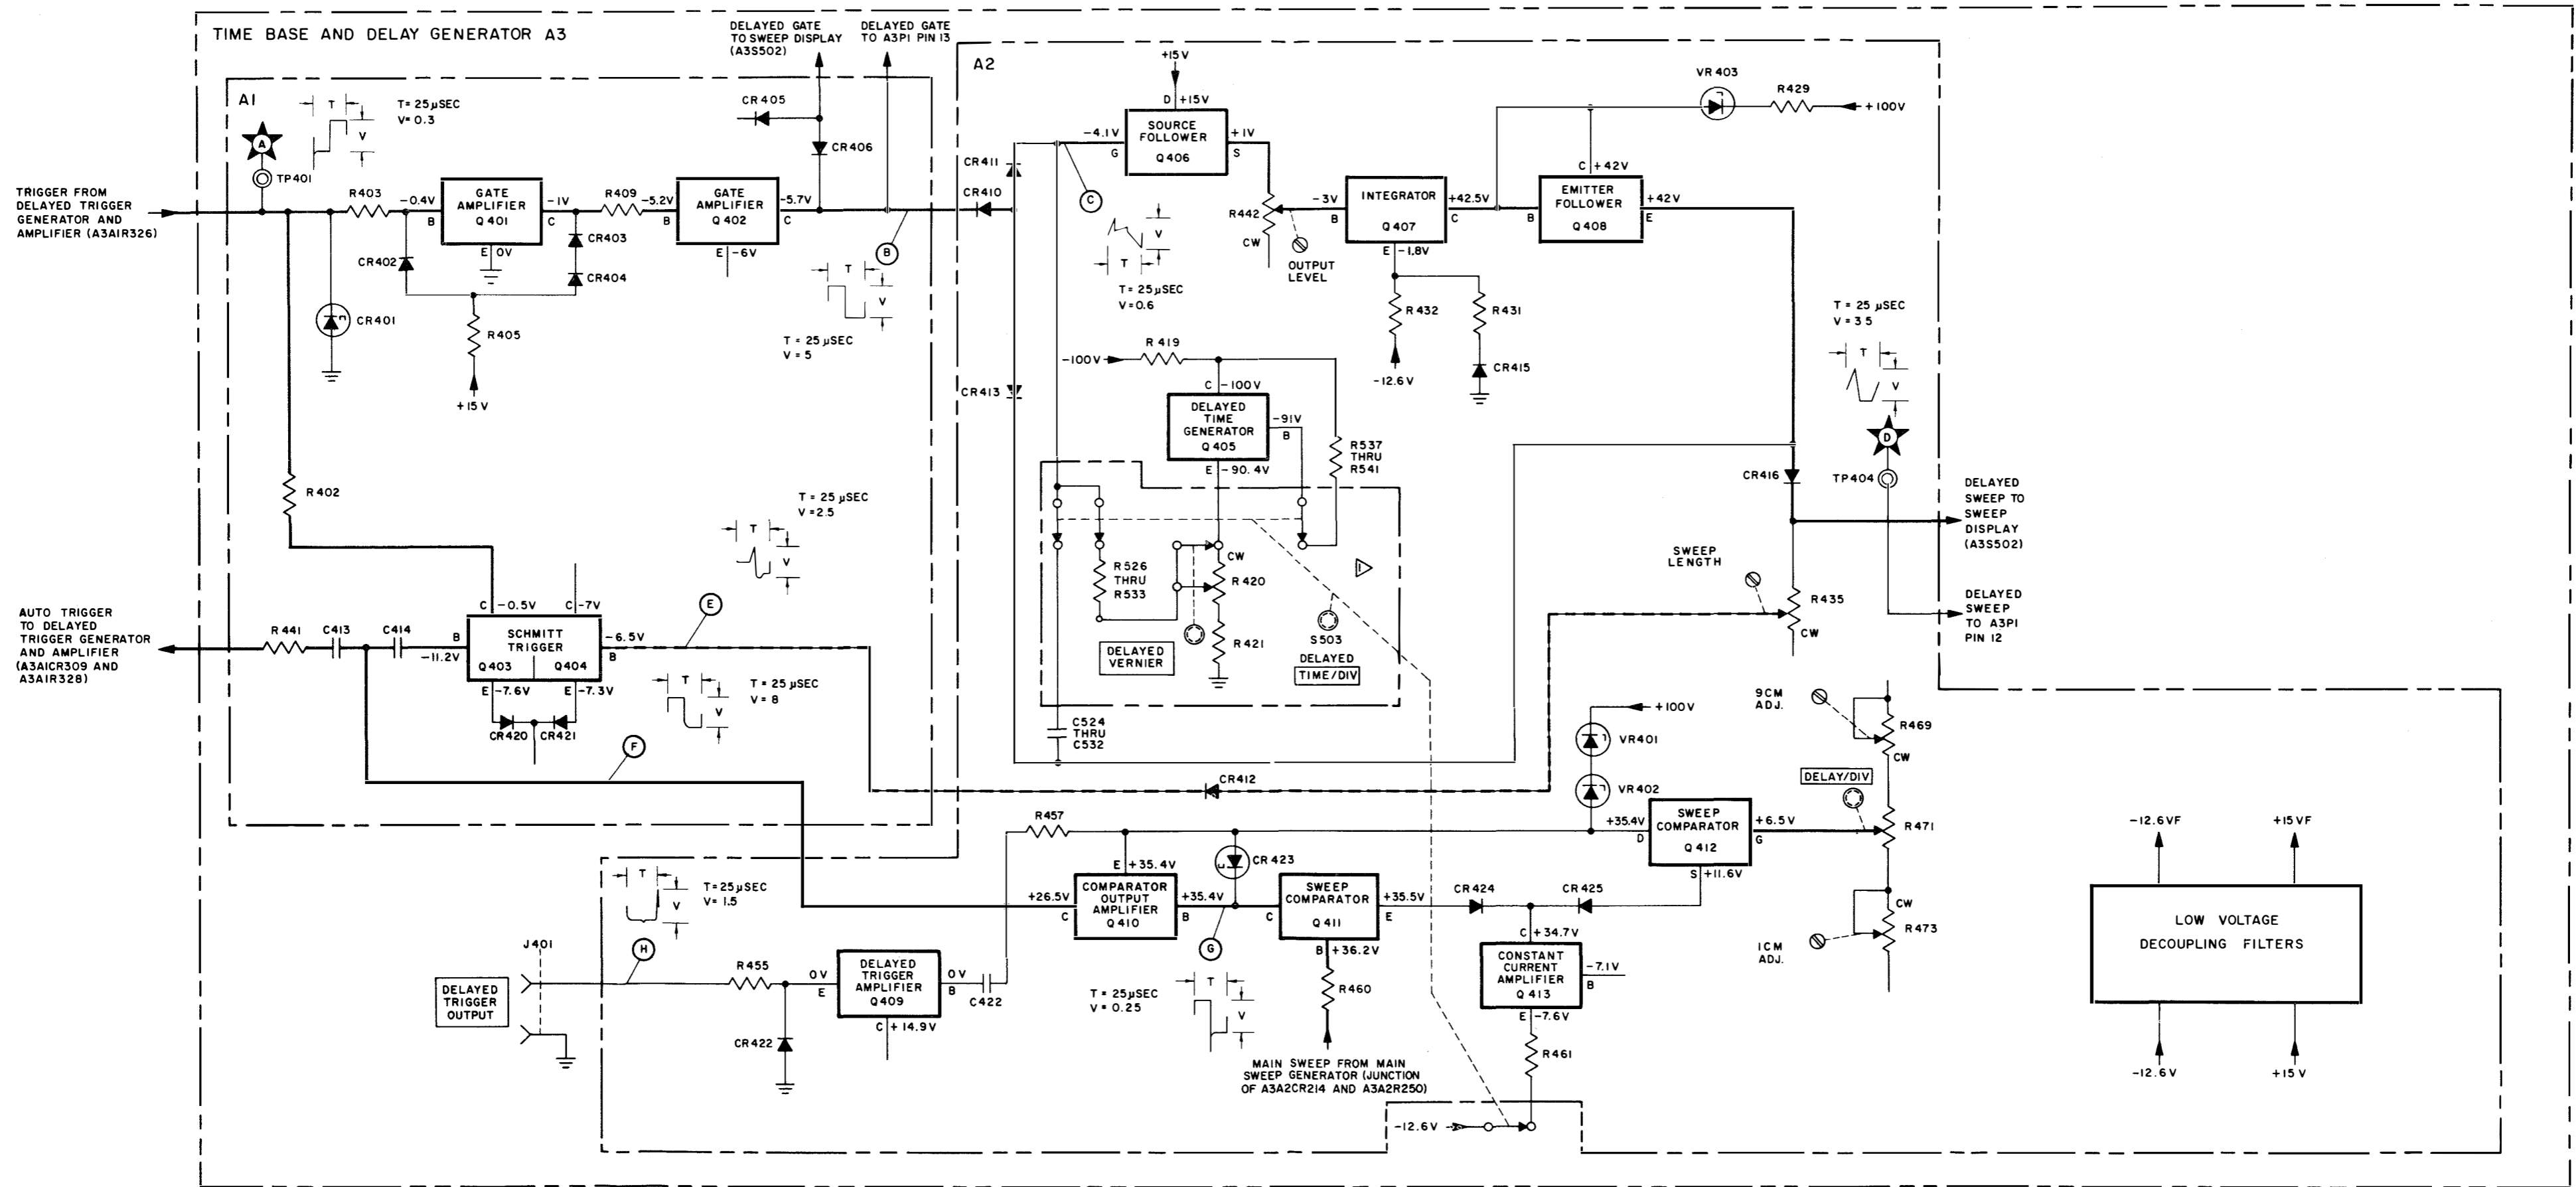

Figure 4-15. Delayed Sweep Generator Functional and Servicing Block Diagram (Sheet 2 of 2)
b. DELAYED SWEEP GENERATOR TROUBLE SHOOTING. - The trouble-shooting chart for the delayed sweep generator is provided in table 4-14 and the servicing block diagram is shown in figure 4-15.
A failure in this functional section can cause a loss of the delayed sweep, a non-linear delayed sweep, a delayed sweep of improper length and the inability to move the intensified trace smoothly along the main sweep. The main sweep must be operating properly to obtain a correct delayed sweep and should therefore be checked thoroughly for correct operation before suspecting the delayed sweep. If the main sweep is functioning properly and a delayed sweep cannot be obtained with the delayed trigger source in AUTO and the DELAY(DIV) rotated clockwise from 0, the trouble is in this functional section or the delayed trigger generator and amplifier functional section. Check the delayed trigger generator and amplifier functional section (A3A2CR309 and A3A2Q306, Figure 4-14) before checking this section. If a delayed sweep can be obtained but is non-linear, the problem is probably in the integrator circuitry (A3A2Q405 through A3A2Q408). See figure 4-15. If the delayed sweep is not of the proper length the problem is the Schmitt Trigger circuitry (A3A2Q403/A3A2Q404) or the delayed sweep output circuitry (A3A2Q407 and A3A2Q408). If an intensified trace can be obtained but cannot be moved linearly across the main sweep (in the AUTO trigger source only), check the sweep comparator circuitry (A3A2Q410 through A3A2Q413).
When this functional section has been isolated as the probable cause of the trouble, perform the procedures in table 4-14 to locate the defective component. While trouble shooting this functional section, keep in mind that this section depends on feedback for its operation and therefore trouble shooting is more difficult. If tracing waveforms (per table 4-14) fails to locate the defective component, set the controls as listed in figure 4-15 and check all voltages in this section. When an incorrect voltage is discovered, an analysis of the factors that could cause the improper voltage should aid in locating the defective component. After locating the defective component and completing the repair, refer to Section 5 and perform the delayed output level, delayed sweep length, delayed sweep time and sweep comparator adjustments.
c. USEFUL ILLUSTRATIONS. - Illustrations useful in maintaining this functional section are: Figures 4-15, 5-26, 5-27, 5-28 and 5-32.